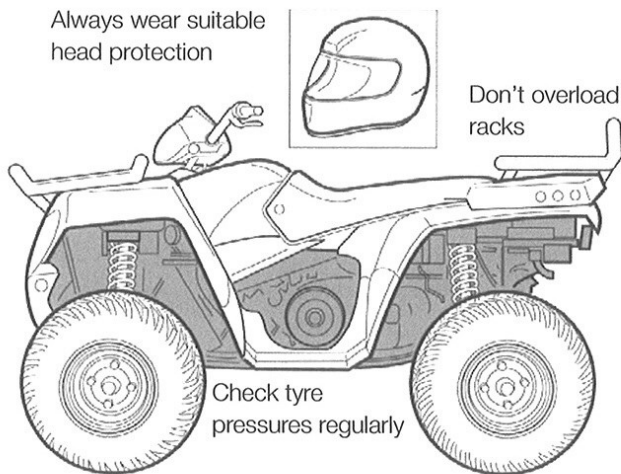

Figure 1 Example of a sit-astride ATV
- **Sit- astride ATVs:** Any motorised vehicle designed to travel on four low-pressure tyres on unpaved surfaces, with a seat designed to be straddled by the operator and with handlebars for steering control (see Figure 1). These vehicles are intended to be used by a single operator without a passenger. They may also be referred to as quad bikes.